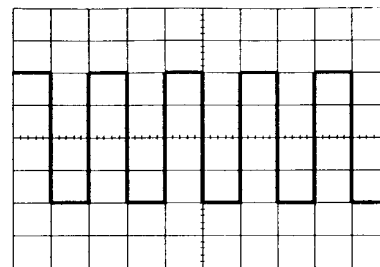

Figure 4-3
- 5) Set the AC-DC-GND switch to the AC state. A waveform as shown in the figure 4-3 will be displayed on the CRT screen
- 8) Adjust the ΔV POSITION and $\triangleleft \triangleright$ POSITION controls in appropriate positions so that the displayed waveform is aligned with the graticule and voltage(V_{p-p}) and period(T) can be read conveniently. The above are the basic operating procedures of the oscilloscope. The above procedures are for single-channel operation with CH 1. Single-channel operation with CH 2 can also be achieved in a similar manner. Further operation methods are explained in the subsequent paragraph.